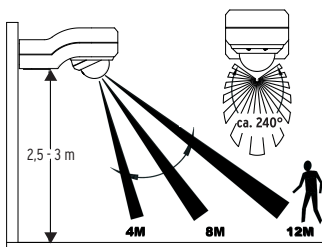

Fig. 1A
- The motion detector should, ideally, be located 2.5 to 3 metres above the area to be monitored (see Fig. 1A).